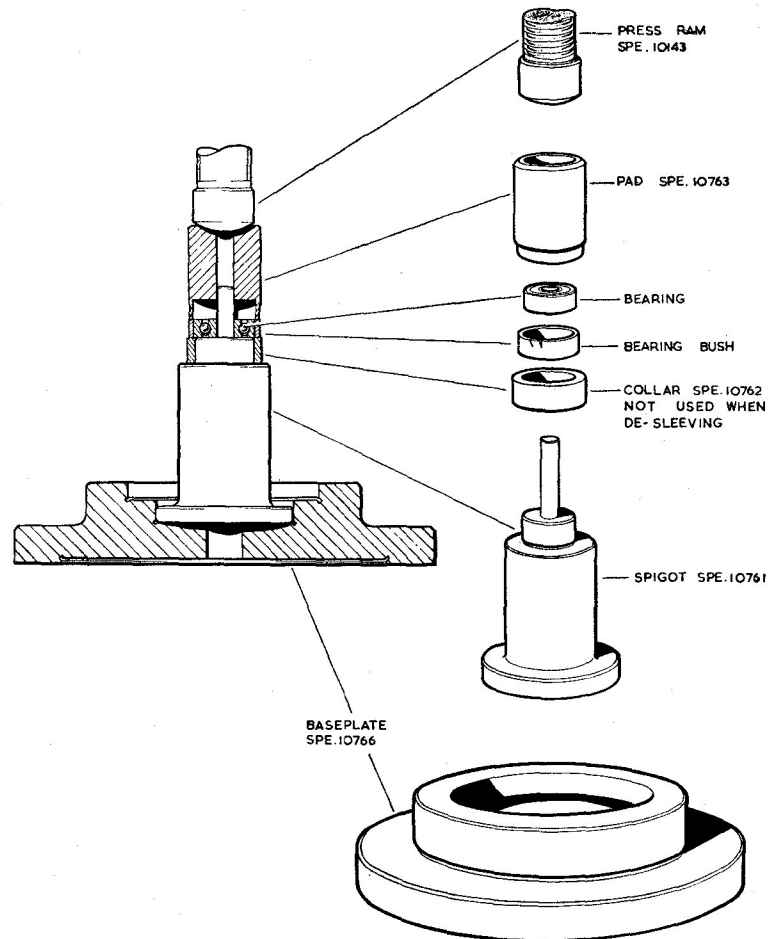

Fig. 11. Bearing sleeve removal and assembly
(3) Unscrew and remove the two brush box securing screws (15) and spring washers. Remove the brush box assembly (21), retainer (13), bearing cover plate (16) and dust shield (20). Press the bearing (18) and sleeve (19) out of the casing, and separate the bearing from the sleeve using the special tools illustrated in fig. 11.
(1) Pre-select an upper bearing (18) which is a slide fit under thumb pressure on the selected armature spindle (*para.* 21). Check that the bearing is smooth running with no roughness when the inner race is rotated by hand.
(2) Assemble the selected bearing (18) into the steel sleeve (19) using the special tools illustrated in fig. 11.
(3) Fit the bearing and sleeve assembly into the commutator end motor casing (9). Ensure that the ears of sleeve (19) locate in the motor casing slots to prevent rotation of the assembly in its housing.